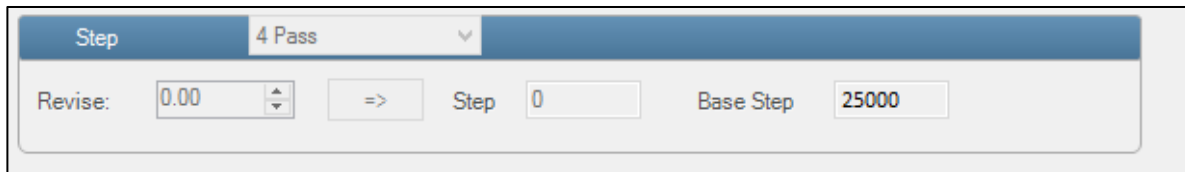

Fig 27: The Step Calibration Parameters
Step 1: Select the desired pass from the list and click on the **Print** button (Refer to Fig 27).
Step 2: Feed the correction value in the **Revise** field (the correction value up to two decimal places) (Refer to Fig 27).
Step 3: Click on the => icon (Refer to Fig 27) on the Step Calibration window. The correction value result will be reflected in the **Step** field (Refer to Fig 27). The same step value will also be displayed in the **Steps** field on the **Quick Access Toolbar**.